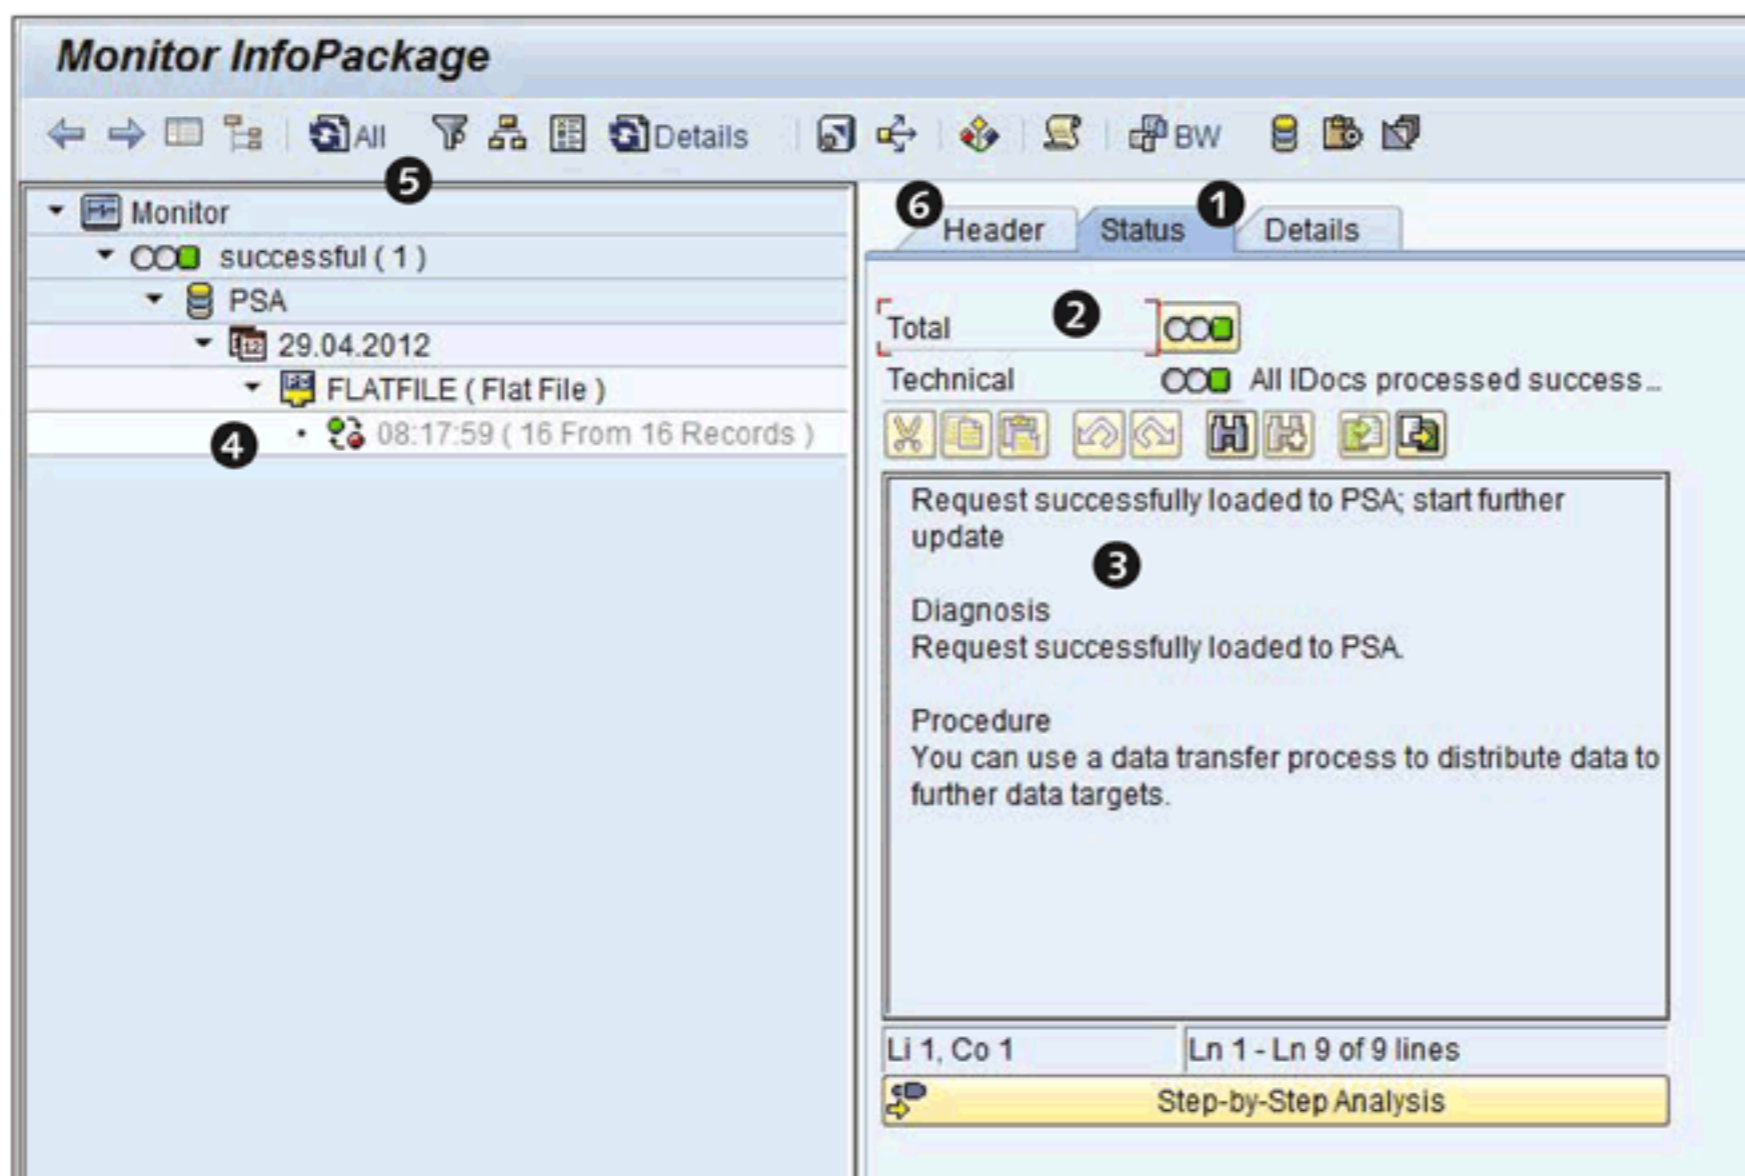

Figure 7.38 Monitor: Status Tab
The monitor automatically opens with the STATUS tab, which is shown in ❶ of Figure 7.38.
The extracted data is stored in a PSA, and the number of records extracted is displayed in ④ of Figure 7.38. By default, the monitor shows the details of the current extraction (③), but this display can be configured using the FILTER icon (⑤).